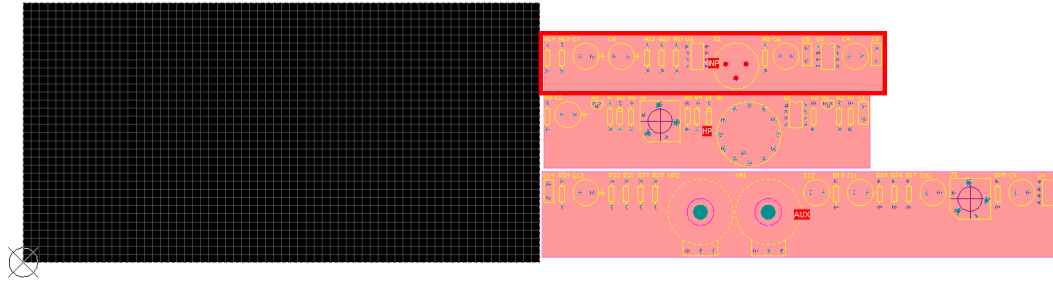

Figure 3. Single Channel design added to PCB document
9. Notice the three rows of components appearing to the right of the board as shown in Figure 3. The **INP** block is at the top.